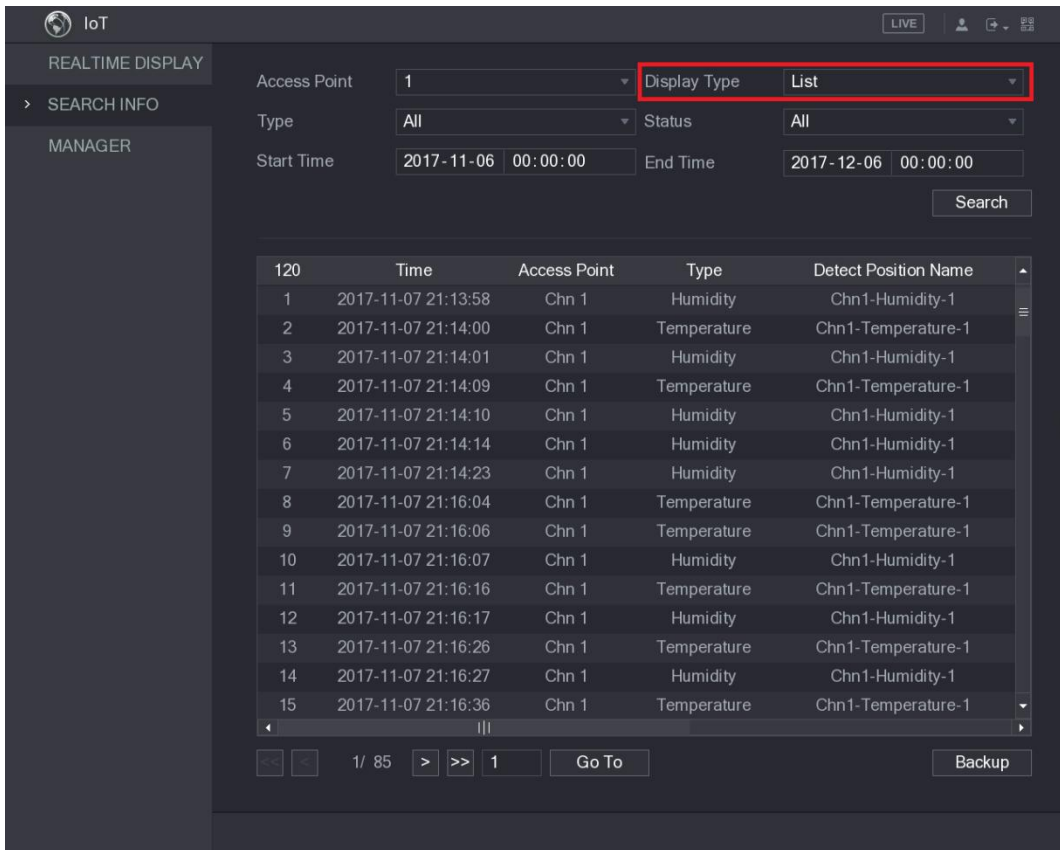

Figure 5-192
- For the data displayed in list, see Figure 5-192.